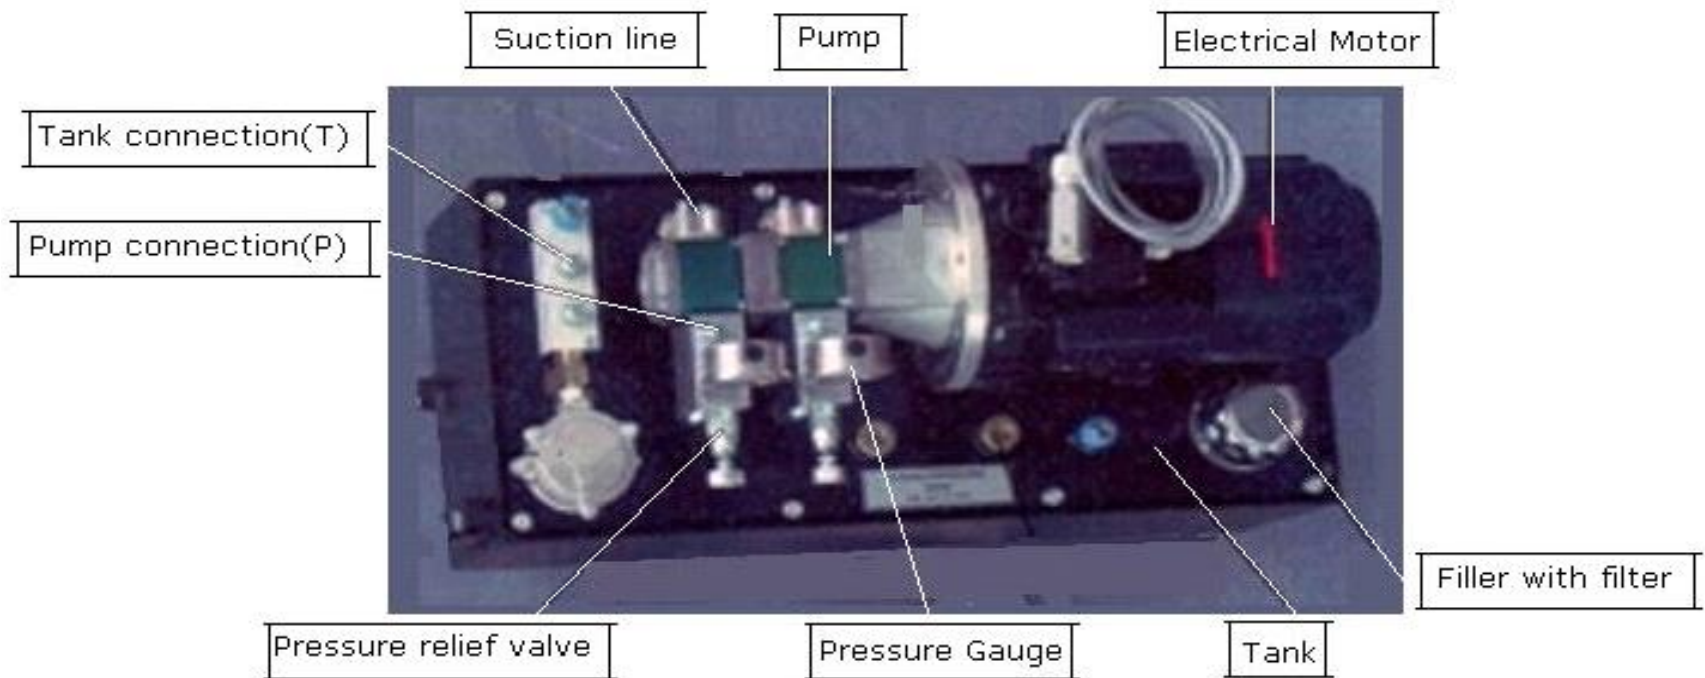

Fig.1.6: The main parts of the hydraulic power pack
- The hydraulic power pack combines the pump, the motor, and the tank. The hydraulic power pack unit provides the energy required for the hydraulic system. The parts of the hydraulic power pack unit are shown in Fig. 1.6.